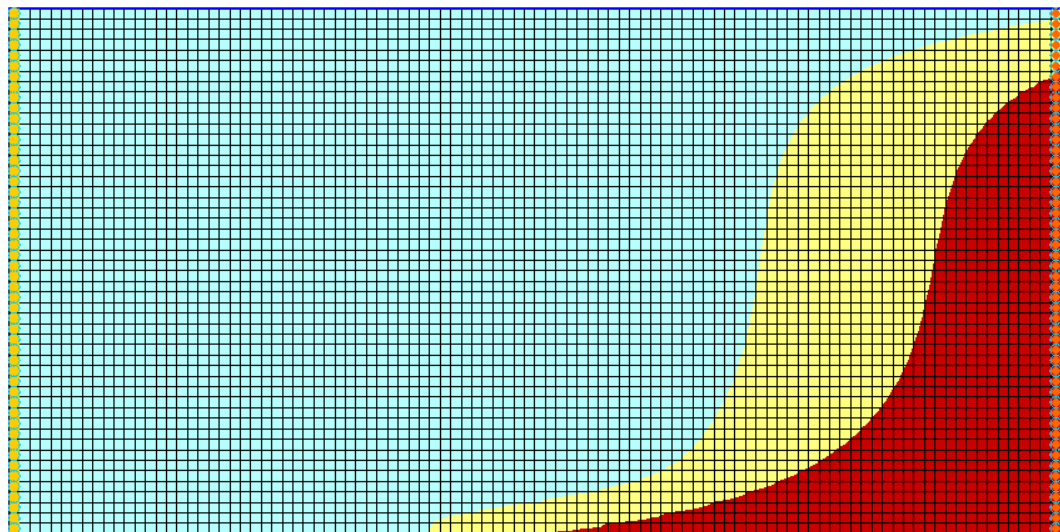

Figure 5 Salt concentration at time step 16 in case1
1. View time step 16 (value of “8000”) in the “ Salt” dataset in “ case1 (MT3DMS)” (Figure 5).